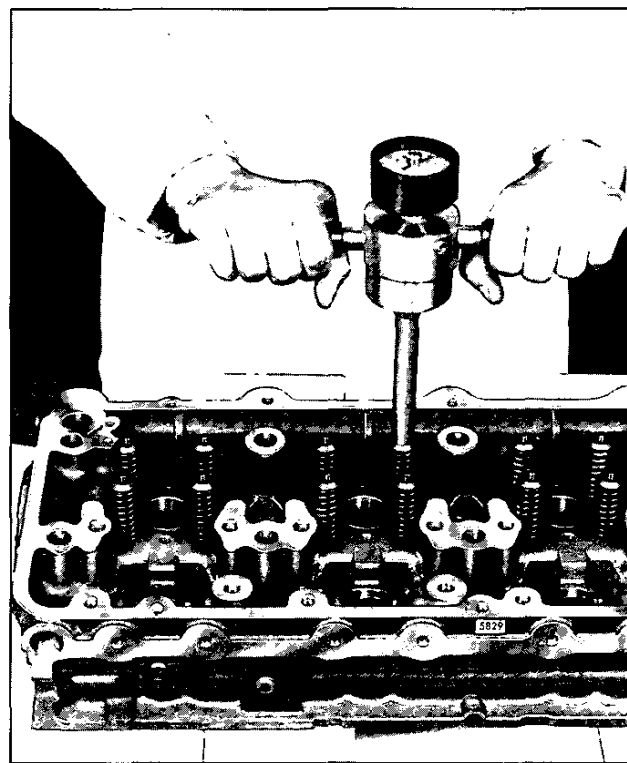

Fig. 19 - Checking Valve Opening Pressure with Gage J 25076-B
11. With the exhaust valves installed in the cylinder head, use spring checking gage J 25076-B and note the gage reading the moment the exhaust valve starts to open (Fig. 19). The minimum pressure required to start to open the exhaust valve must not be less than 33 pounds for a two-valve cylinder head or 25 pounds for a four-valve cylinder head.